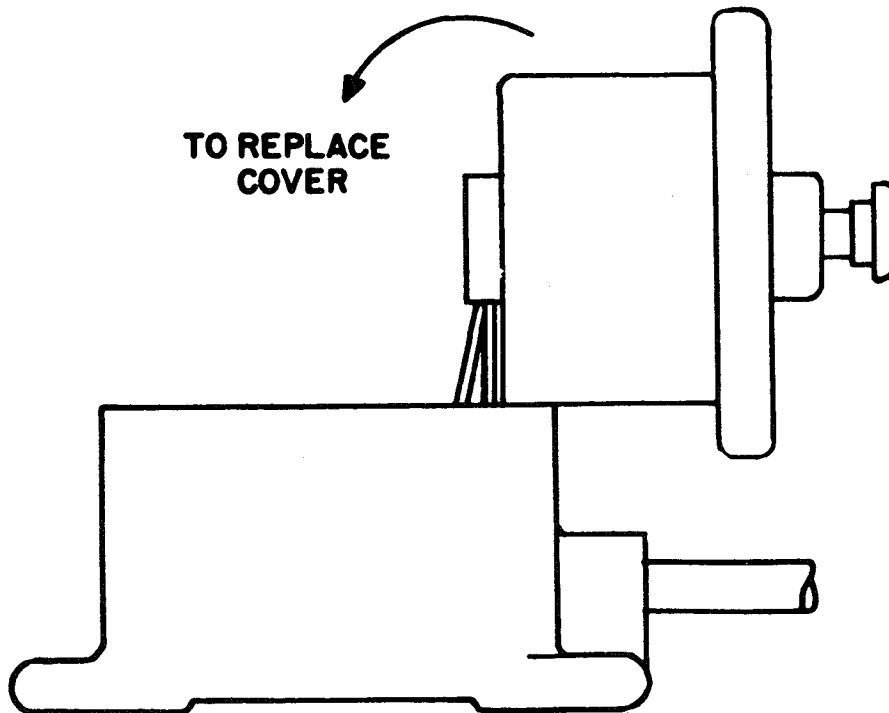

Figure 3-4. Connection of conduit Wiring to Unit.
- c. Place the Vibraswitch in position shown in Figure 3-4 and connect wires to corresponding terminals: